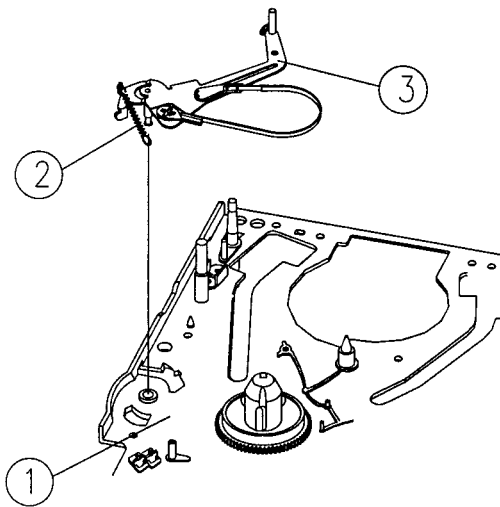

Fig.3-15 TENSION BAND ASS'Y REMOVAL (I)
3-10. TENSION BAND ASS'Y REMOVAL (See Fig.3-15, 3-16)
- Remove the TENSION SPRING ② from the MAINBASE ①. (Fig.3-15)